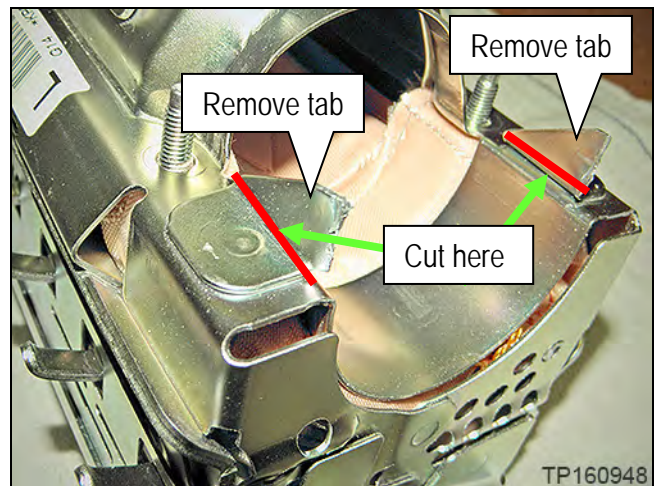

Figure 22
- Left side shown cut in Figure 22.